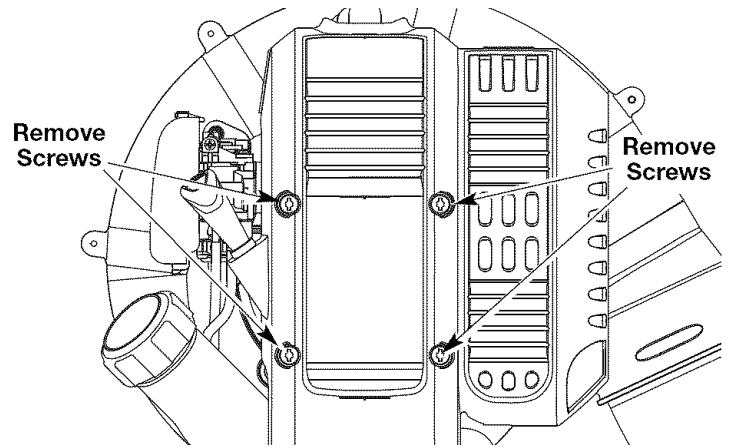

Fig. 25
1. Stop the engine and allow it to cool. Remove the four (4) screws on the back of the engine cover with a Flat-head or T-25 Torx screwdriver (Fig. 25).
1. Remove the rear engine cover (Fig. 25).